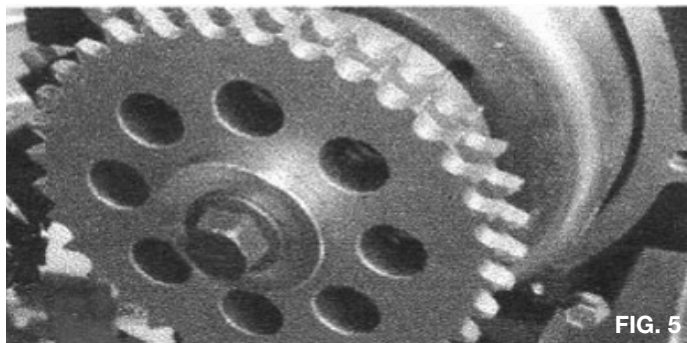

FIG. 5
13. Torque front sprocket bolt to 140-165 ft/lbs (figure 5).